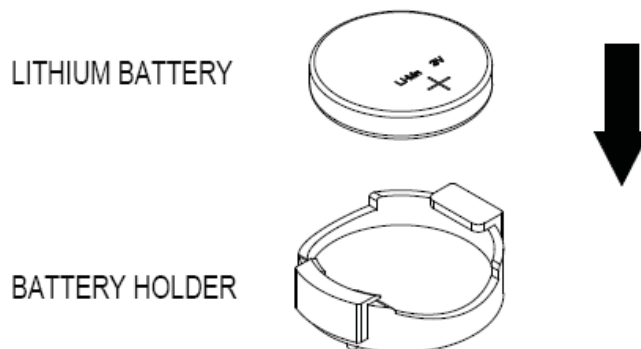

Figure 4-1. Installing the Onboard CR2032 Battery
- Serverboard Battery: **CAUTION** - There is a danger of explosion if the onboard CR2032 battery is installed upside down, which will reverse its polarities (see Figure 4-1). This battery must be replaced only with the same or an equivalent type recommended by the manufacturer. Dispose of used batteries according to the manufacturer's instructions.